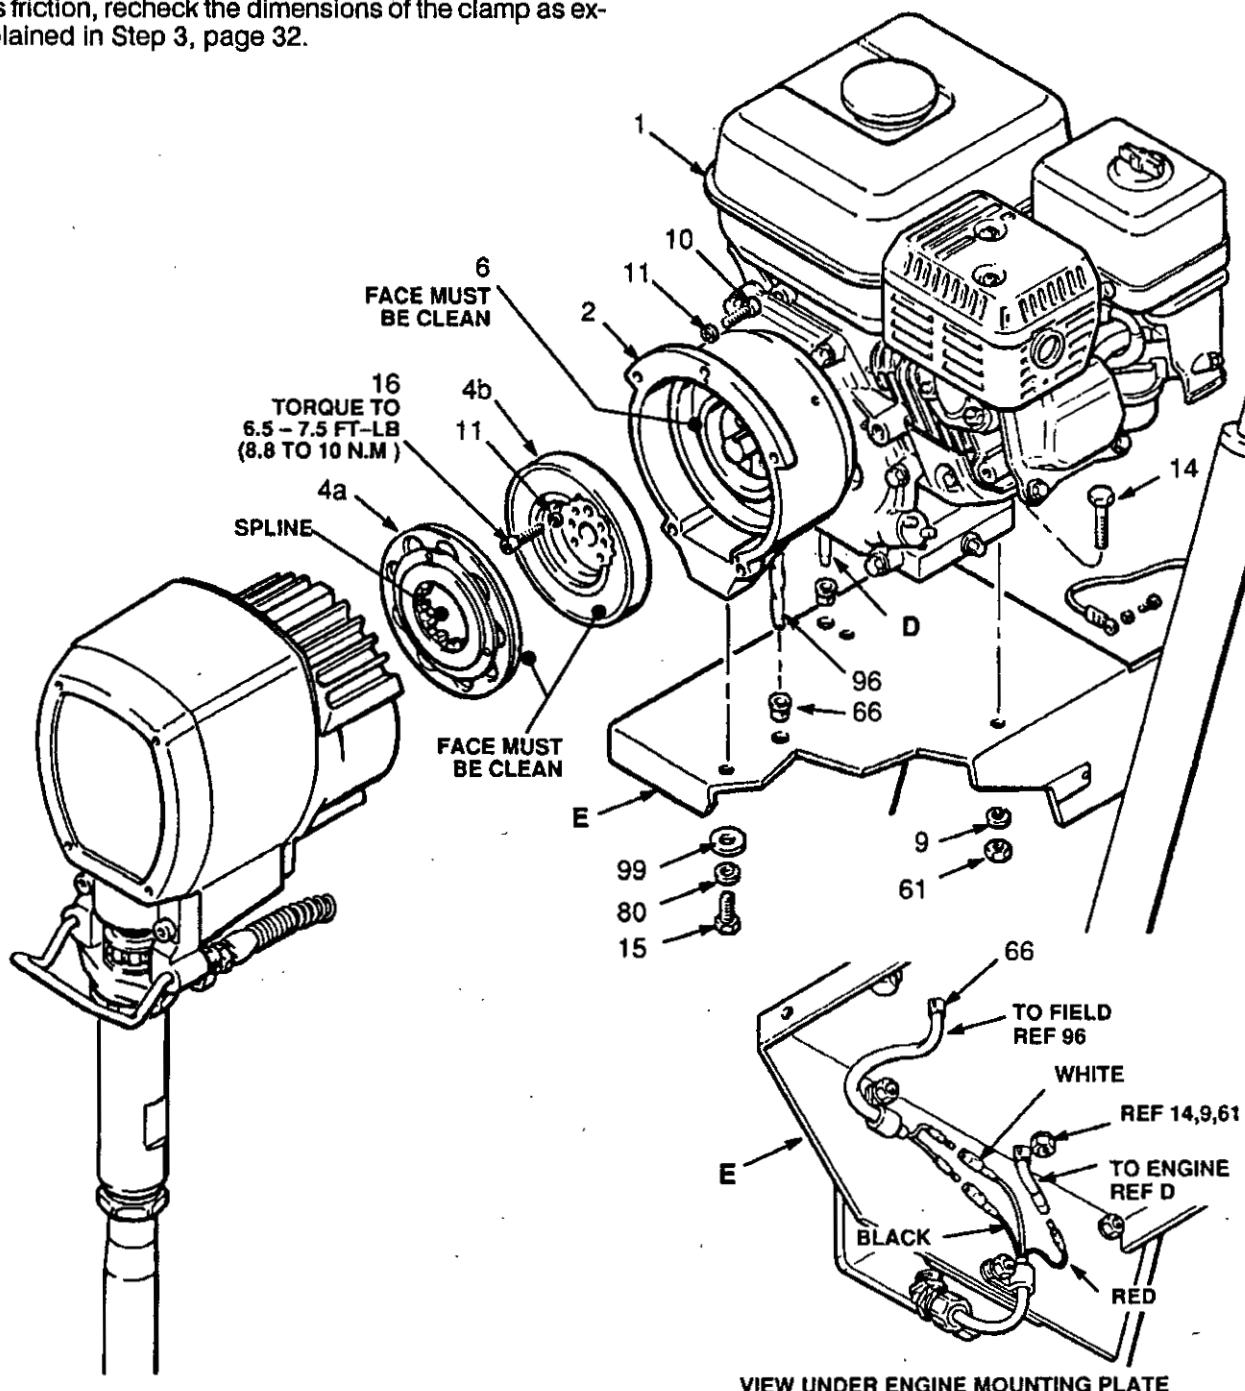

Fig 33-1
5. Place the engine (1) assembly on the cart. Align the mounting holes. Carefully guide the engine wire (D) and wiring harness (96) from the field, through the appropriate grommets (66) in the mounting plate (E). Install the capscrews (14), lockwashers (9) and nuts (61). Install the capscrews (15), lockwashers (80) and washer (99) from under the engine mounting plate to the clutch (2). Connect the engine wire (A) to the red wire, and connect the black and white wires as shown in the Detail drawing in Fig 33-1.
6. Be sure the face of the rotor (4b) and the field is free of all oil and contaminants. Install the rotor, lockwashers (11) and capscrews (16). Torque the capscrews to 6.5 to 7.5 ft-lb (8.8 to 10 N.m). See Fig 33-1.
7. Be sure the face of the armature (4a) is clean. Assemble the armature to the shaft in the pinion housing (19). A retaining ring located within the armature makes it difficult to assemble these parts. Follow this procedure for the best results. First, engage a few splines of both parts. While they are engaged, use a screwdriver to gently push the retaining ring into the armature, and finish engaging the splines. Push the armature onto the shaft until it contacts the ring (19m). See Fig 33-1.
8. Assemble the pinion housing (19) to the clutch housing, using the capscrews (10) and lockwashers (11). See Fig 33-1.